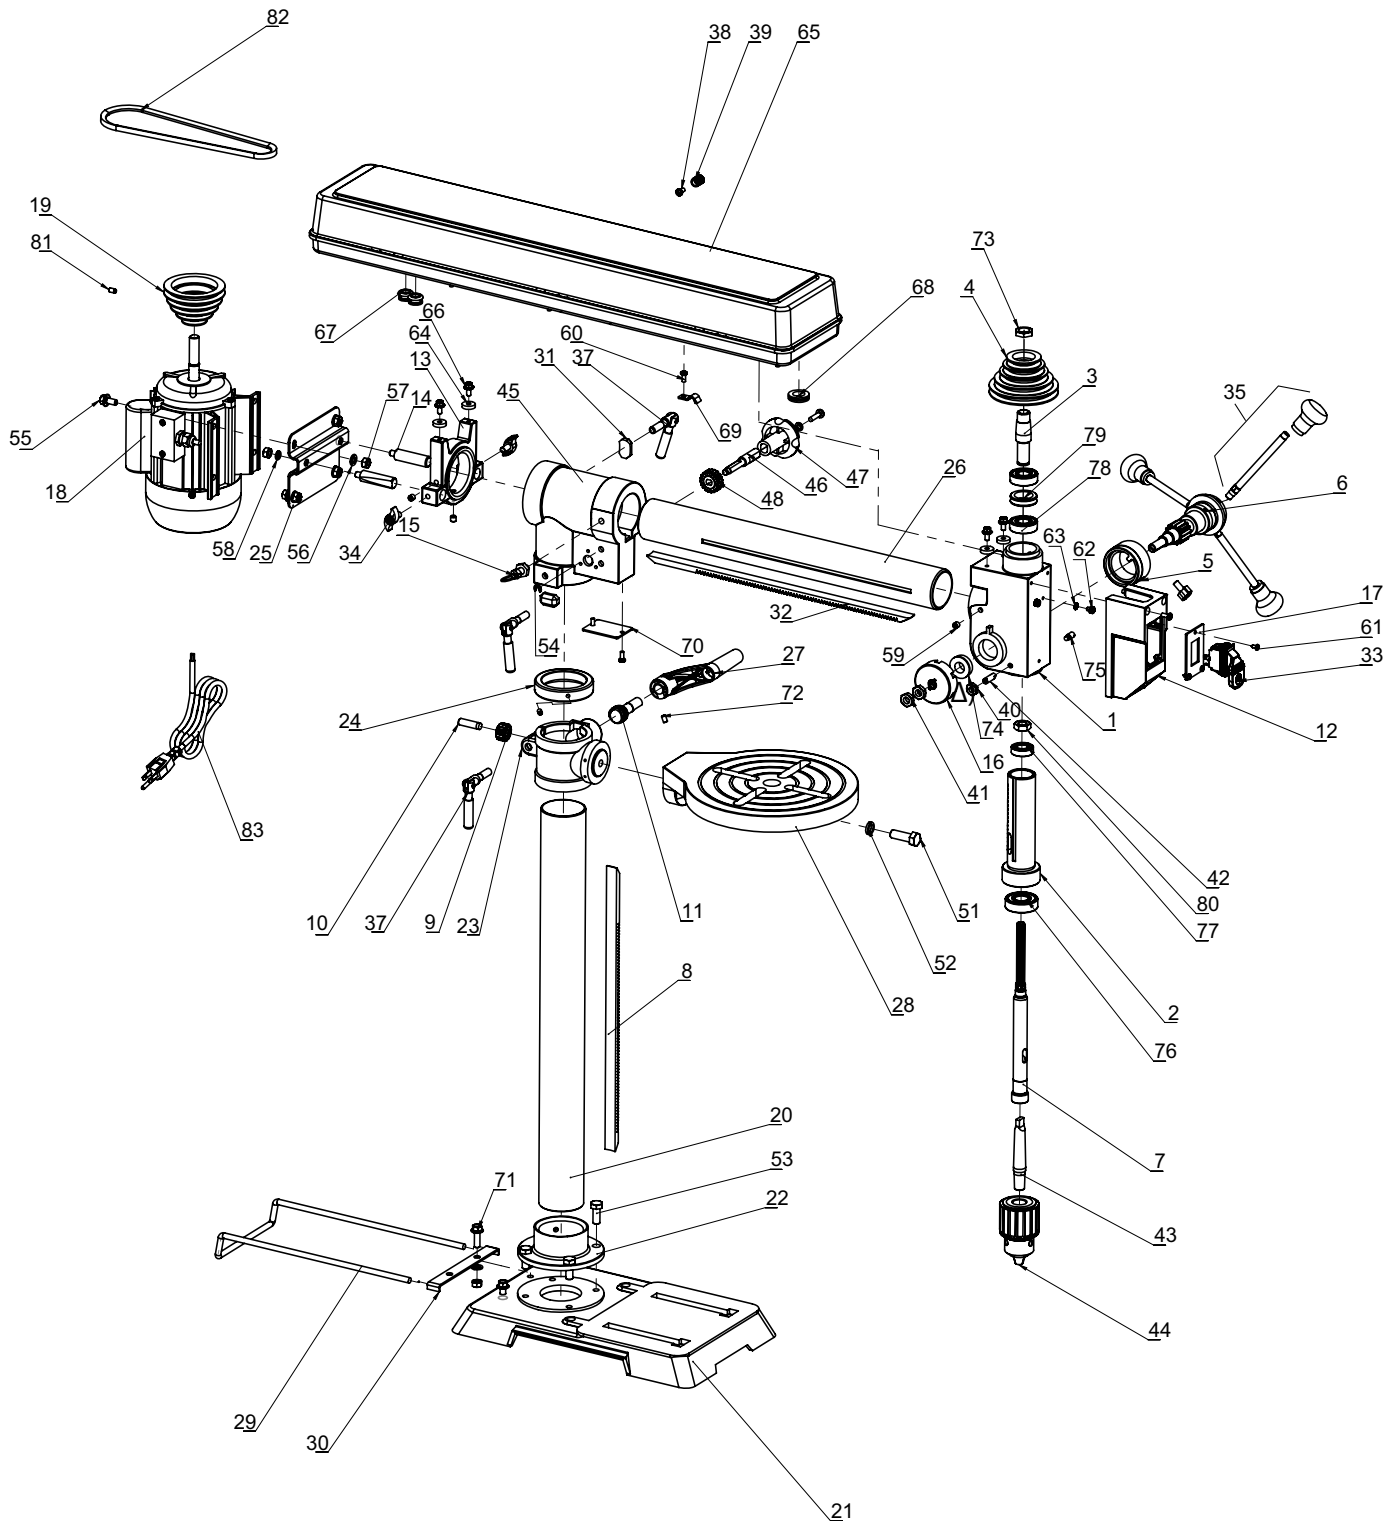

Figure 22 – Repair Parts Illustration for Model 9680341C Bench Drill Press
- Lower spindle assembly (Figure 22, Ref. No. 3) all the way down.
- Apply lubricant around the inside of the hole in the spindle pulley (Figure 22, Ref. No. 72).
- Apply lubricant to rack (teeth) on quill (Figure 22, Ref. No. 6) while extended below drill press head.